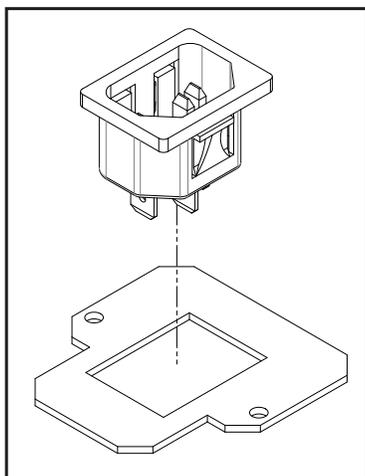

Figure 78: Electrical Adapter Plate
3. Press the IEC outlet into the adapter plate (included in the manual bag). Refer to Figure 78 for proper geometry and orientation. **Make sure tangs are completely seated of the plug will not engage fully.**